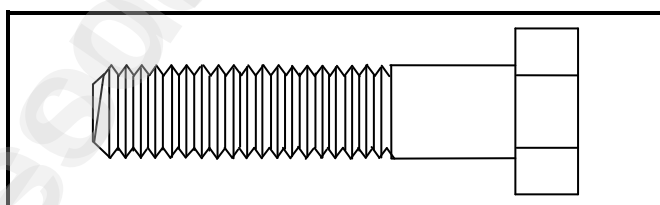

FIGURE 1.6
1.6 FIGURE 1.6 below shows a joining fixture that can be used on building sites.